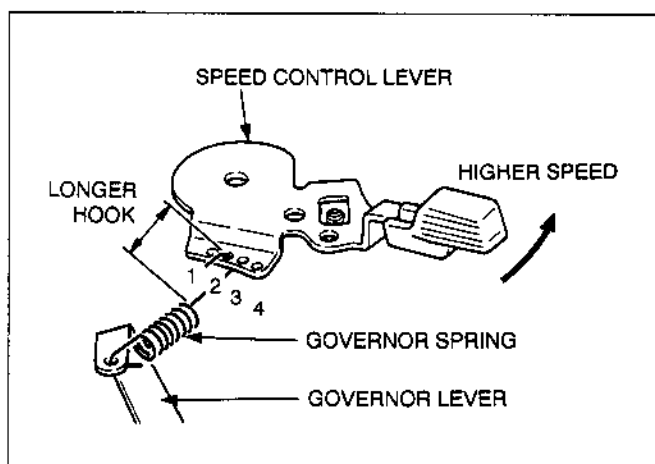
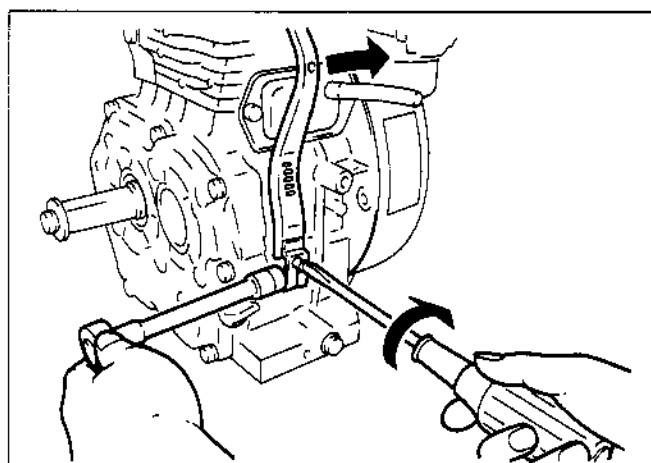

Fig. 5-42
Fig. 5-43
- (3) Connect the speed control lever and the governor lever with the governor spring. The governor spring should be hooked to the number 2 hole on the speed control lever for the regular specifications. Refer to the illustrations below. (See Fig. 5-42.)
- (4) Turn the speed control lever all the way toward the high speed position and make sure that the throttle valve in the carburetor is at the wide open position.
- (5) Turn the governor shaft clockwise all the way using a screw driver, and tighten the lock bolt and nut. (See Fig. 5-43.)